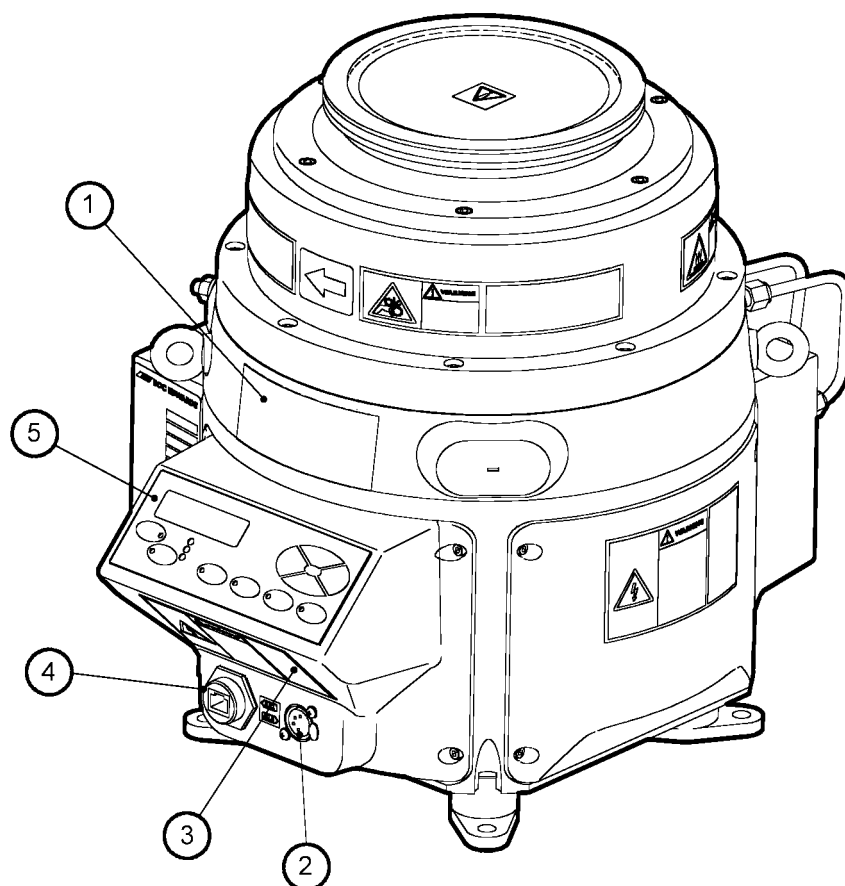

Figure 4 - EPX E Dry Pump
This pump is for use on clean duty applications such as loadlock, and is augmented with an End User Controller (EUC). The End User Controller enables local control for stand-alone use as well as the ability to connect to a fab-wide network for remote control and monitoring. A Pump Display Terminal (PDT) may also be used with the End User Controller to facilitate local control. (Refer to Figure 4).
This is fitted with a gas module that supplies nitrogen purge gas to the shaft seal and pump mechanism areas to provide dilution of process gases for the light duty applications specified in Figure 1. (Refer to Figure 4, Table 5 and Section 3.6 for further information).
This system is a light process application pump with network and local control capability through the EUC as described in Section 1.2.2. (Refer to Figure 4).
The EPX E series of pumps can be manually operated using the EUC local display and keypad, or remotely using a PDT, if fitted; it can also be controlled and monitored over the network, which connects to the EPX pump through the Network connector (Figure 4, item 2). When the EPX 'E' series of pumps is controlled via the TIM, the EUC simply monitors the status of the pump.